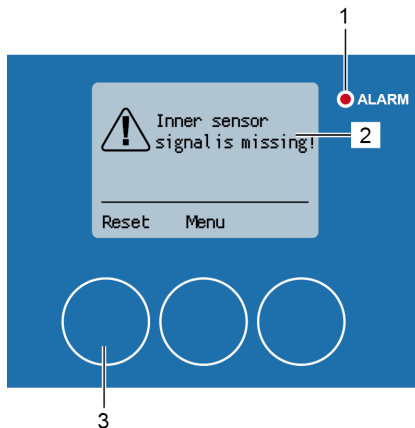

Fig. 195: Inner sensor signal alarm
The alarm message “Inner sensor signal is missing!” (Fig. 195/2) is displayed during the cleaning process if there is a problem with the proximity sensor in the centre of the rotor. For example, if the proximity sensor in the centre of the rotor emits a new signal (e.g. due to contamination) after it has already given a signal by recognizing the cleaning carriage. The red alarm LED (Fig. 195/1) lights up.
2. Reset the alarm message with [Reset] (Fig. 195/3).
If the alarm message is reset without first correcting the error, the alarm message appears again. The “1 Main menu” menu can be called up via [Menu] (Fig. 195/4), e.g. to check the signal status of the proximity sensor in the centre of the rotor chapter 6.5 Status indicators on page 89.